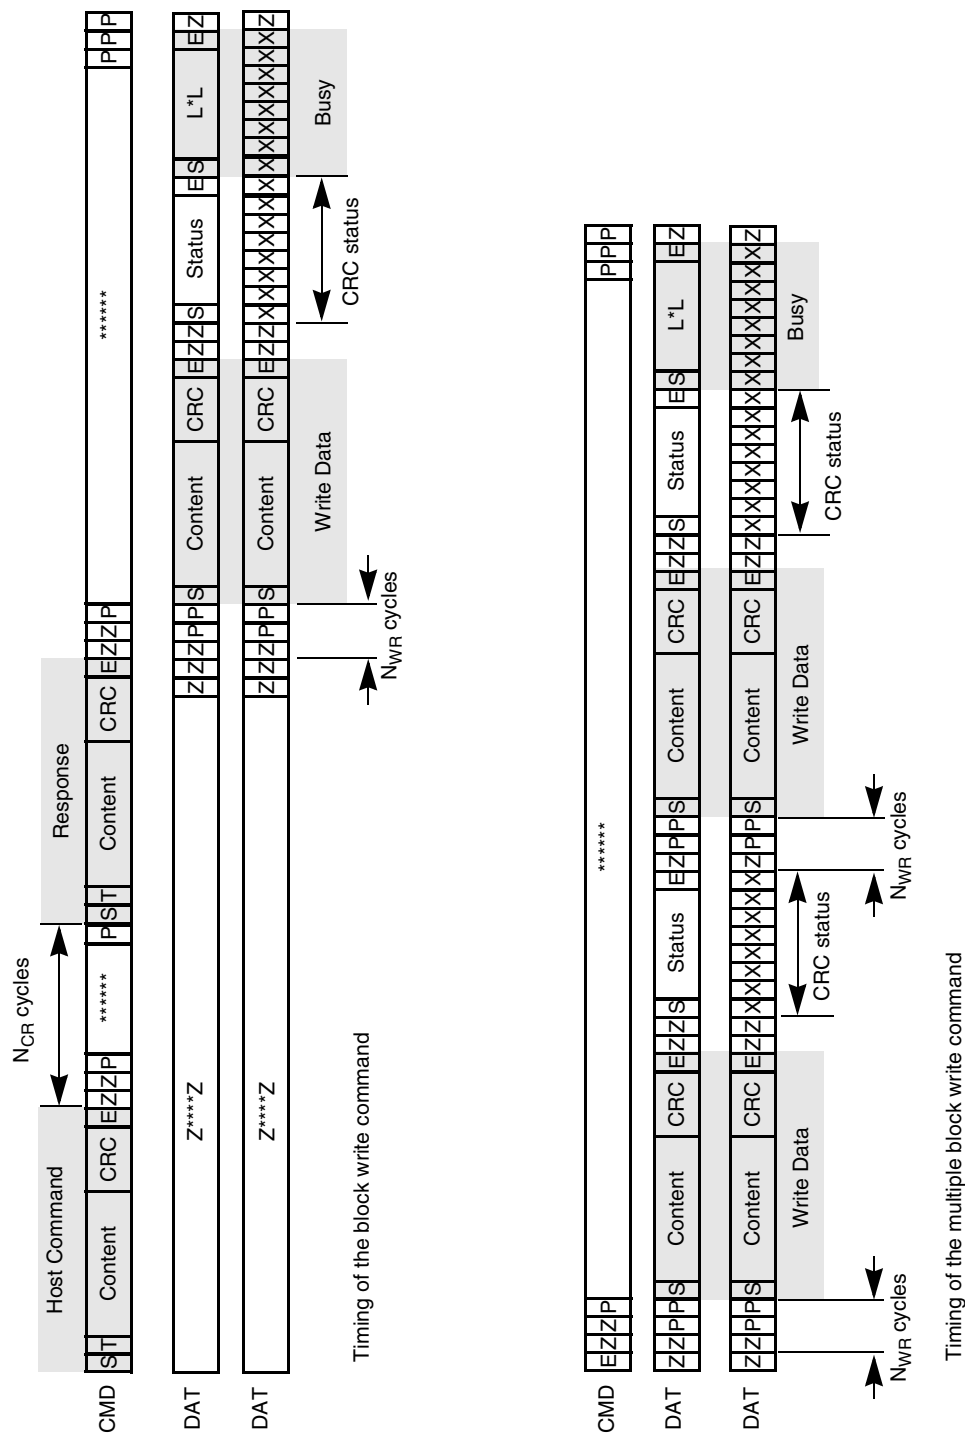

Figure 46. Timing Diagrams at Data Write
Figure 46 shows the basic write operation timing. As with the read operation, after the card response, the data transfer starts after N_{WR} cycles. The data is suffixed with CRC check bits to allow the card to check for transmission errors. The card sends back the CRC check result as a CC status token on the data line. If there was a transmission error, the card sends a negative CRC status (101); otherwise, a positive CRC status (010) is returned. The card expects a continuous flow of data blocks if it is configured to multiple block mode, with the flow terminated by a stop transmission command.